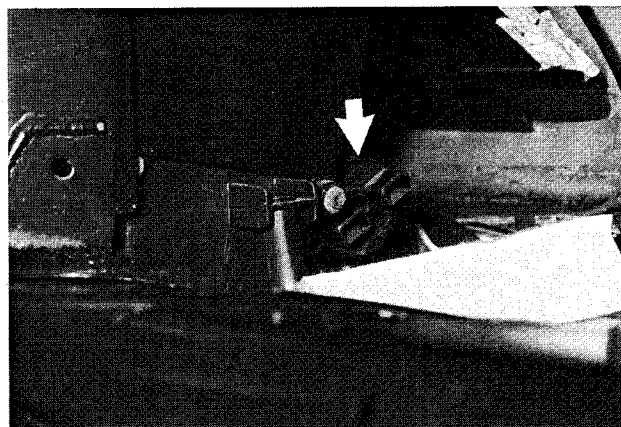

Fig. 53. A/C microfilter cover release knob (arrow) on passenger side of heater box.
4. Rotate A/C microfilter housing release knob about 45° counterclockwise and remove filter housing cover. See Fig. 53.